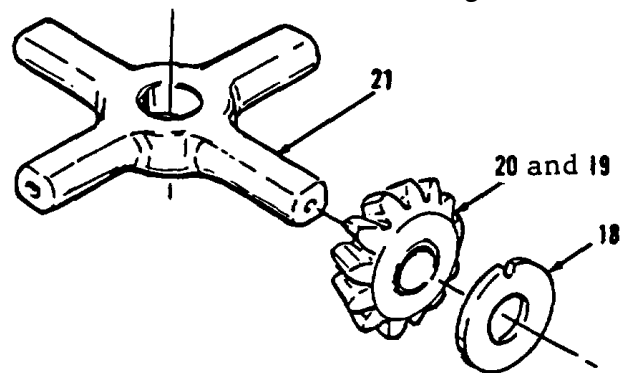

Figure 14-125.
18. Install four items 20 and 19 as an assembly and washers (18) on spider (21, Figure 14-125). Insure notches in four washers (18) are facing up.